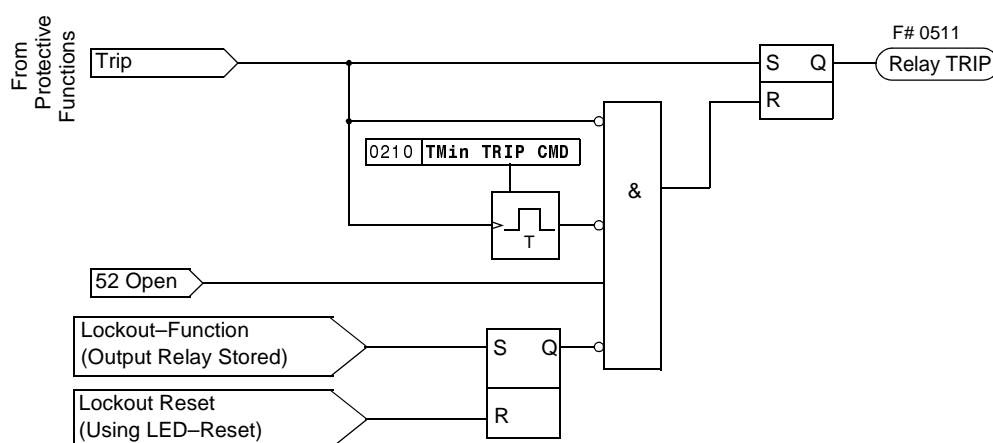

Figure 6-69 Terminating the Trip Signal
- All trip signals from a protection function hold the 0511 Relay TRIP function, and start the minimum trip signal duration timer (set at address 0210 **Tmin TRIP CMD**, see Figure 6-69). This trip signal duration timer ensures the trip signal is transmitted